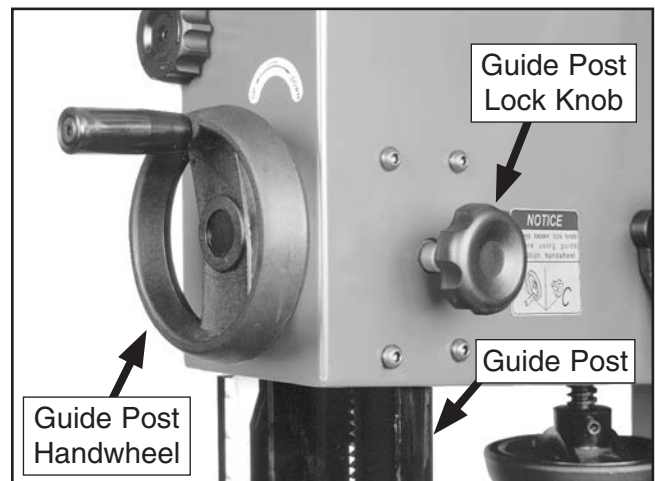

Figure 30. Guide post controls.
The guide post, shown in **Figure 30**, connects the upper blade guide assembly to the bandsaw. The guidepost allows the blade guide assembly to move up or down via a rack and pinion. In order to cut accurately, the blade guide assembly must be no more than $\frac{1}{4}$ " from the top of the workpiece at all times—this positioning provides the best support for the blade.
2. Loosen the guide post lock knob shown in **Figure 30**.